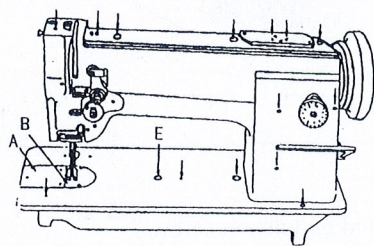

Fig.1
3) Oiling (Fig.1, 2, 3, 4)
1) Turn the balance wheel to lift needle bar 1 to the upper end of its stroke. Place the feed dog at this side in its travel turning the balance wheel, and open the slide plate A. (Fig.1)